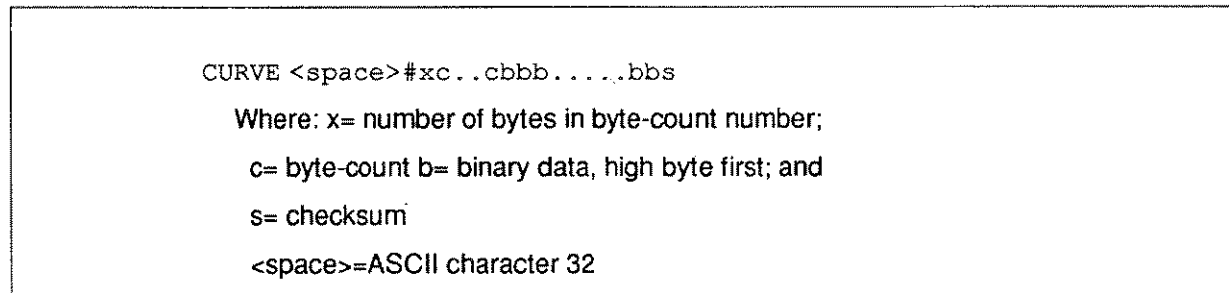

Fig. 4-2 Waveform data structure - Arbitrary length format
**ARBITRARY LENGTH FORMAT** - It is the definite length arbitrary block format defined in the IEEE-488.2 standard. This format allows transfer of any number of waveform data words from one to the waveform record length (up to 256K words). This format is selected by sending the BFormat command (Table 3-6). The arbitrary length format is shown in Figure 4-2.